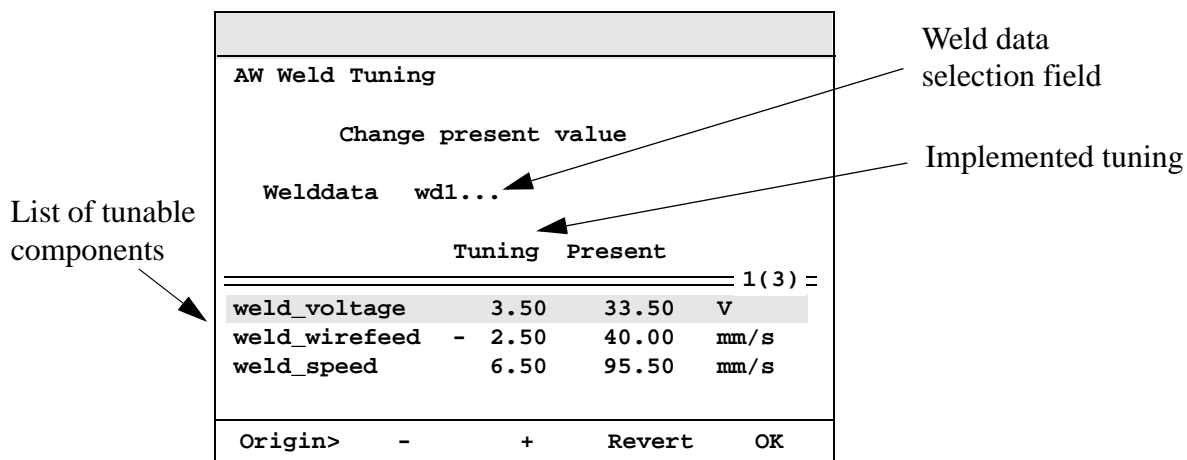

Figure 6 Dialog box for weld data tuning.
A dialog box appears where the latest used (present) welding data is displayed (see Figure 6).
- Select the desired welding data in the dialog box displayed (see Figure 6) and press **OK**.